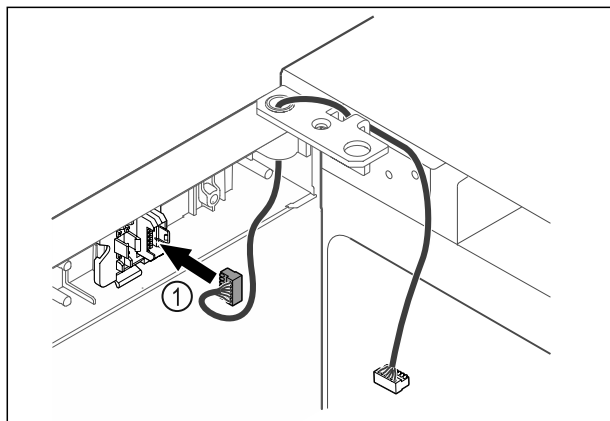

Fig. 37
- Put the plug Fig. 37 (1) in the plug holder.